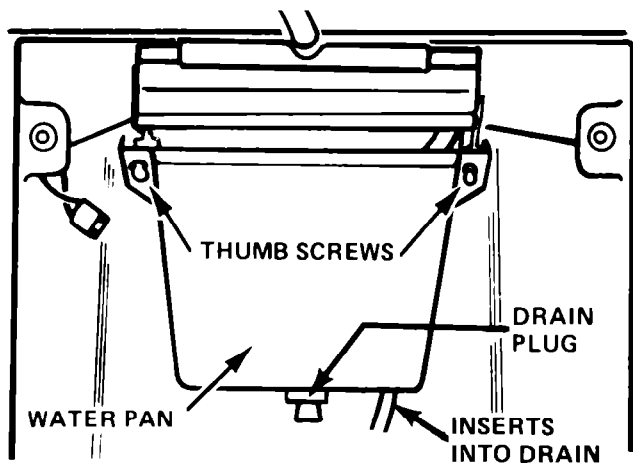

FIGURE 10
4. Drain the water pan, Figure 10, by removing the rubber plug. Replace the plug.
12. Remove water pan, (two thumb screws) **Figure 10**.